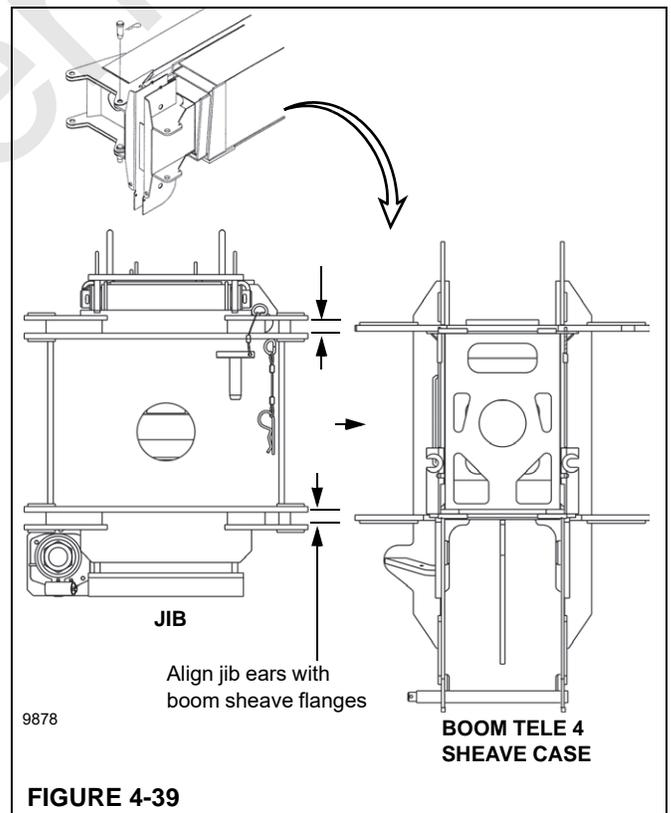

FIGURE 4-39
6. Observe the vertical alignment of the jib ears and ear assemblies. Figure 4-39.
12. Extend and retract boom to insure proper alignment of jib ears. The jib ears should align with the boom jib flanges (Figure 4-39).